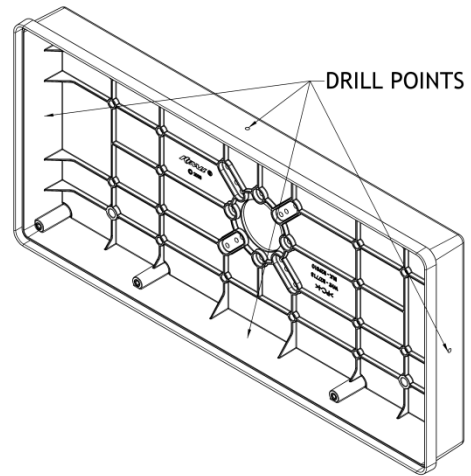

Figure 3
**Conduit Attachment** (Fig. 3) ½” trade size conduit may be used for power entry into top, bottom or sides of HOUSING. Locate suitable drill point and drill 7/8” dia. hole. Use proper conduit hub and locknut for wet or damp/dry location installation (not supplied).